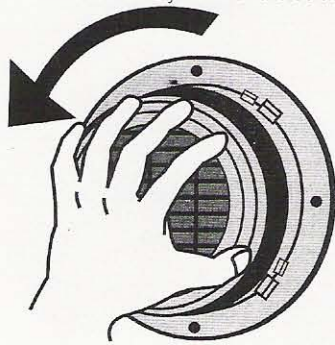

FIG. 7
8. This ventilator can be easily released off by twist anti-clockwise (see fig 7), for cleaning dust after long period running. To replace in the unit by twisting clockwise into the 4 slots (see fig 8).